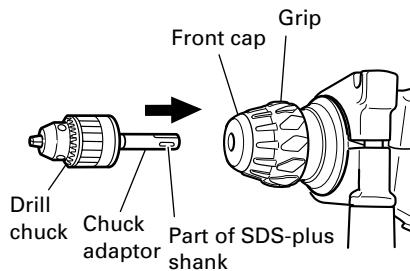

Fig. 7
- To drill a wood or metal material using the separately sold drill chuck and chuck adaptor, proceed as follows. Installing drill chuck and chuck adaptor (Fig. 7):
- (1) Attach the drill chuck to the chuck adaptor.
- (2) The part of the SDS-plus shank is the same as the drill bit. Therefore, refer to the item of "Mounting the drill bit" for attaching it.